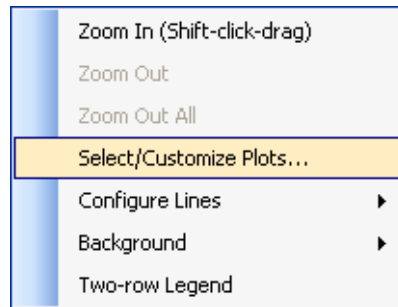
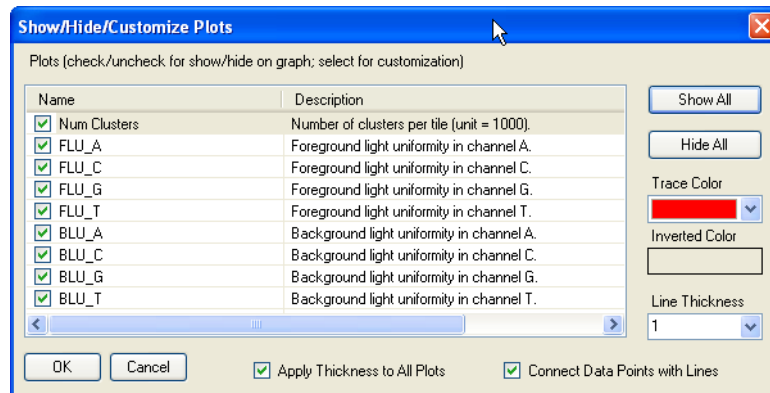

Figure 104 Analysis Viewer context menu
Figure 105 Select plots in Analysis Viewer
- ▶ To zoom out, right-click on the graph to bring up the context menu (Figure 104) and select **Zoom out**. If you have zoomed in two or more times, **Zoom Out All** will be enabled, which will return the graph to the original un-zoomed state.
Click on **Select/Customize Plots** in the context menu (Figure 104) to bring up the **Show/Hide/Customize Plots** dialog box (Figure 105).